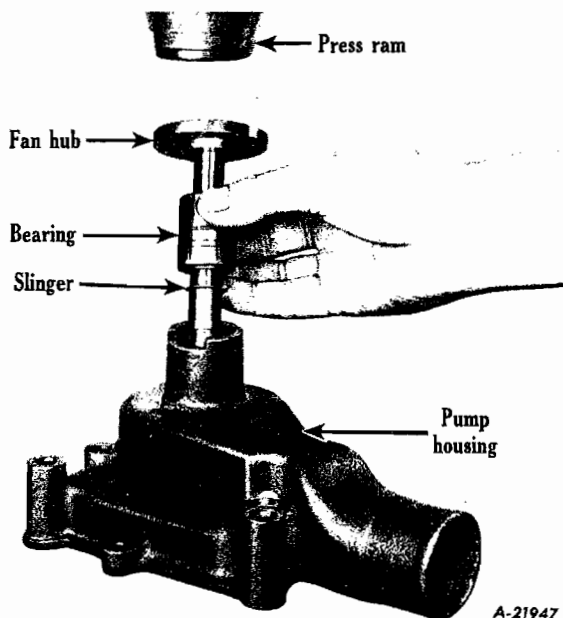

Fig. 38
- Install shaft in housing from front end by pressing shaft, bearing, slinger, and fan hub in as one unit (Fig. 38).